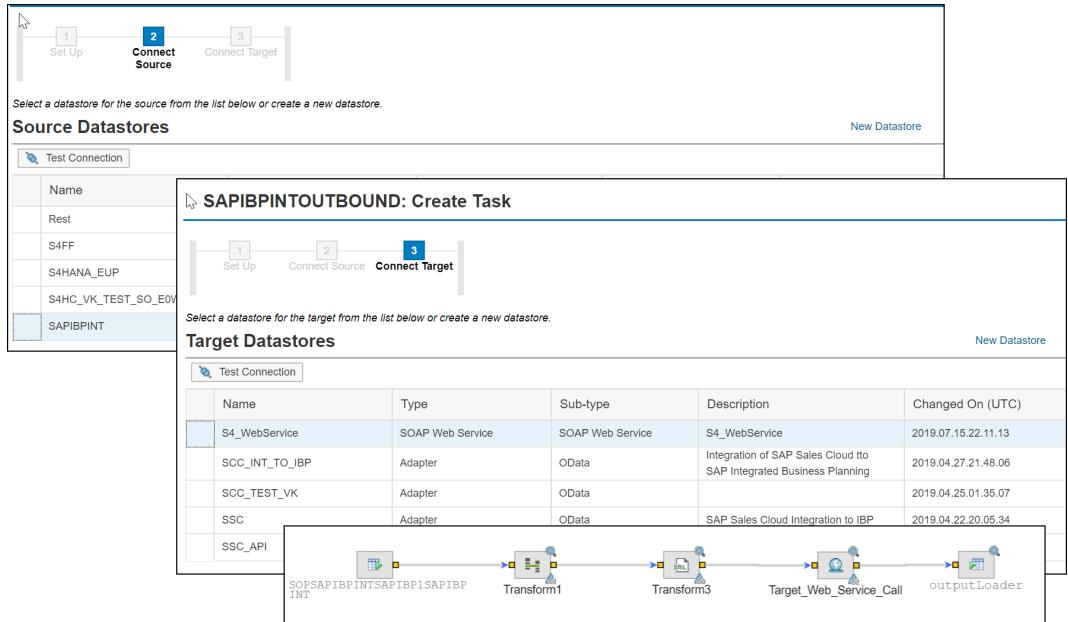

Figure 2.20 Selecting Data Stores for the Outbound Scenario
5. Under **Source Datastores**, select the **SAPIBPINT** data store as specified in the previous section (see Figure 2.20). Click **Next**.
6. Under **Target Datastores** (see Figure 2.20), select the **S4_WebService** data store that was created in the previous steps. Select **Save and Define Data Flow** to proceed.
13. Apply the required data type conversion, for example, **TSTFR** is represented as a *decimal* data type in SAP IBP and a *varchar (10)* data type in SAP S/4HANA or SAP ERP. You can edit the output field to make it *varchar (10)*.